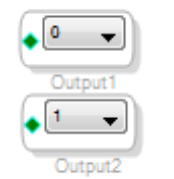

Figure 24. **Output** Blocks
- ii. Repeat the previous step to add another output (see Figure 24).